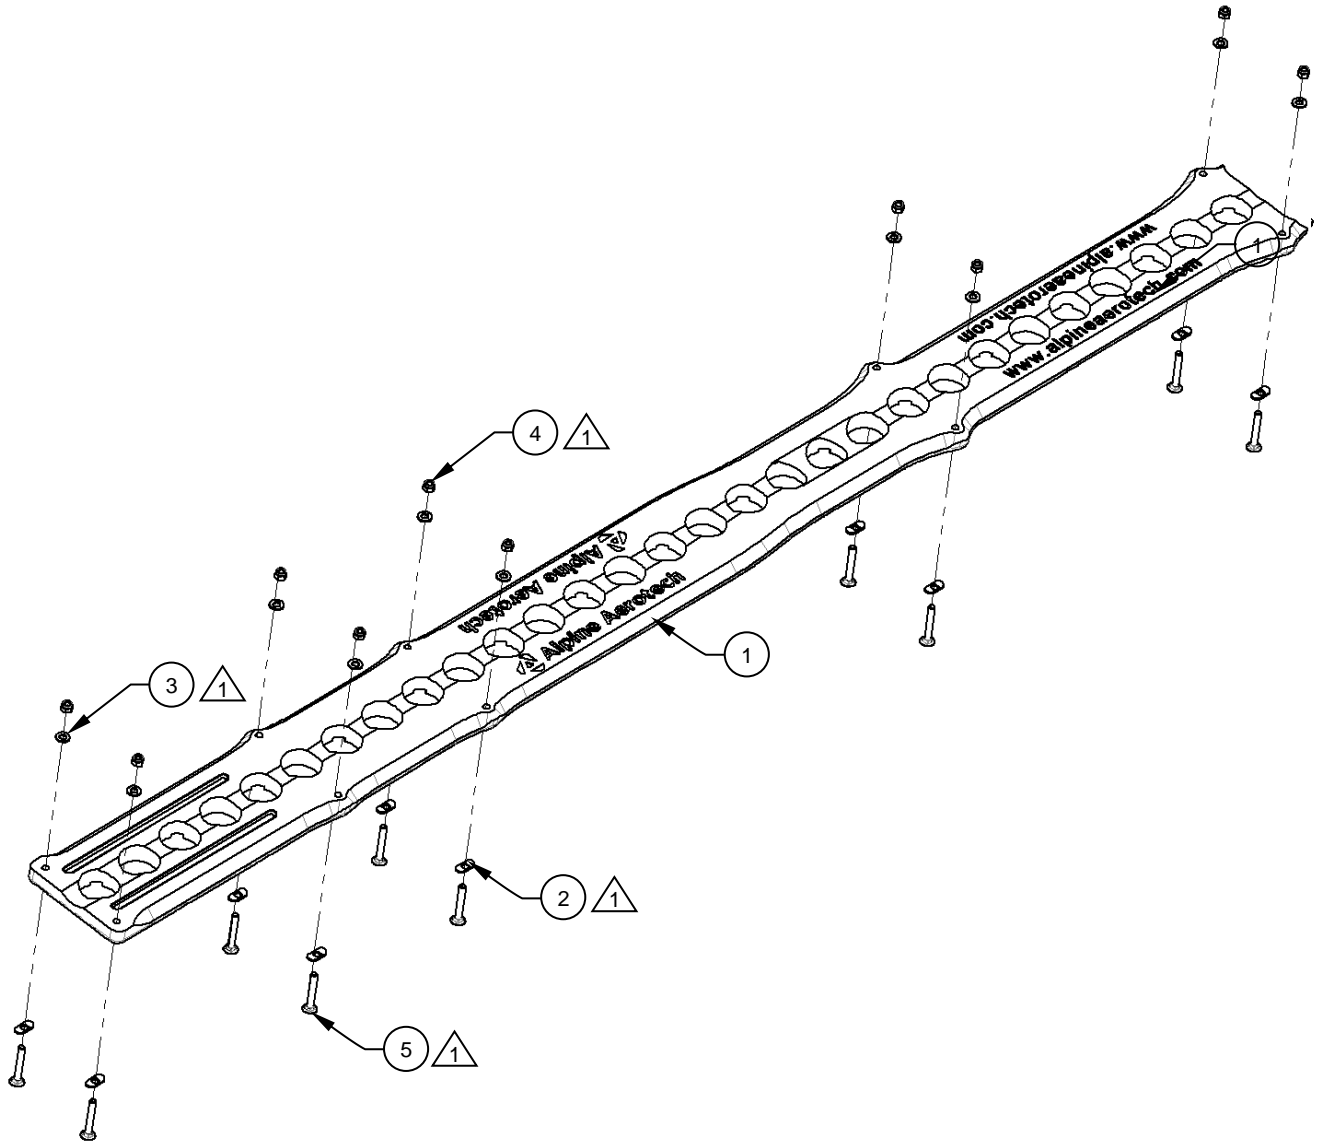

Figure 1
1. Install the supplied hardware on the Traction Paw, Detail (Item 1) as shown. Reference Figure 1.